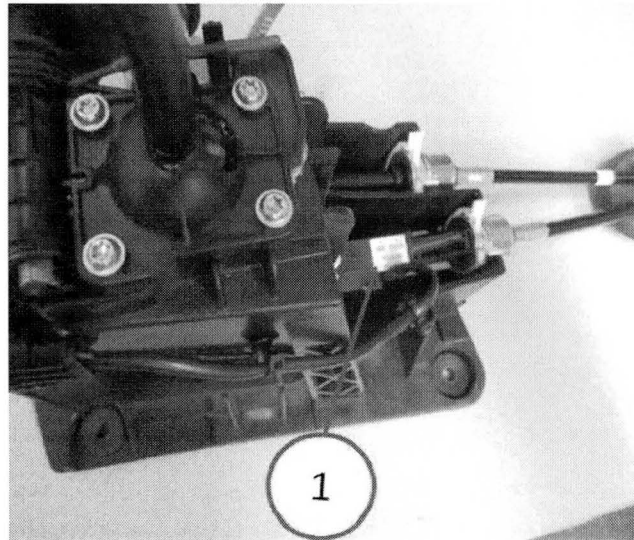
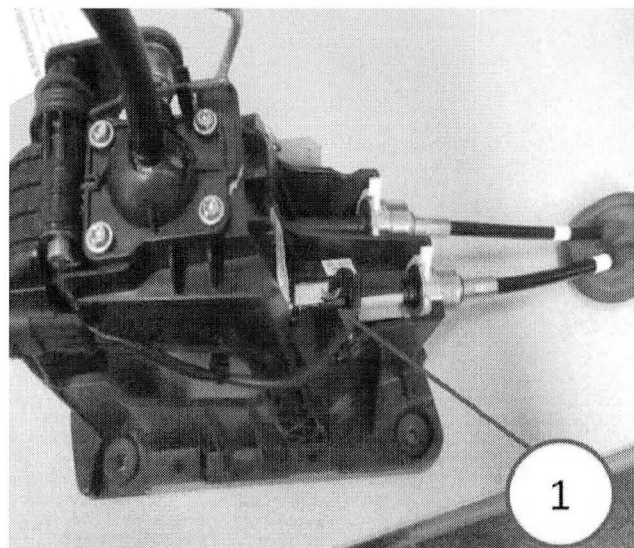

Fig. 5 Shift Module
Fig. 6 Shift Module
9. Locate the neutral position sensor (Fig. 5).
10. Ensure the neutral position sensor is in the correct position (Fig. 5) and (Fig. 6).